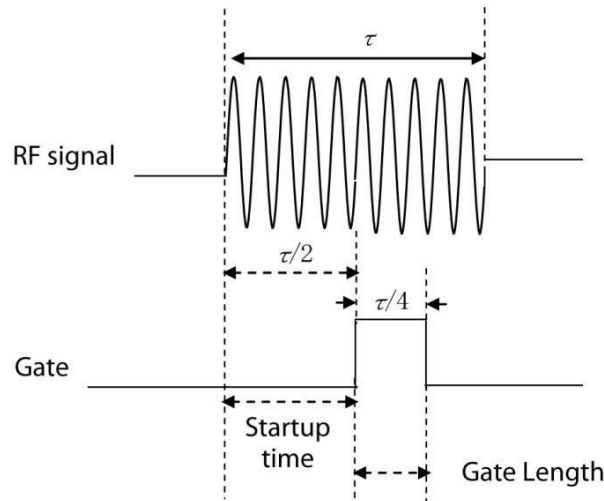

Fig. 4.52 Positioning of time gate
Generally, the gate is required to be placed in the area of stable signal, instead of pulse edge or transition zone; otherwise, it will interfere with the spectrum. The gate signal comes from the center of the pulse, and the SUT is calculated after the width of about half a pulse. The setup time (SUT) refers to the duration prior to the arrival of gate and after the signal stability. The SUT is required to be set to be long enough for the resolution bandwidth filter of transient burst. The signal delay (SD) refers to the time interval between the trigger event and stable signal. If the trigger event and signal appear simultaneously, the SD will be 0 and the setup time (SUT) is equal to the delay time, otherwise the SUT is equal to the value of gate delay time subtracting the SD, as shown in Fig. 4.52.